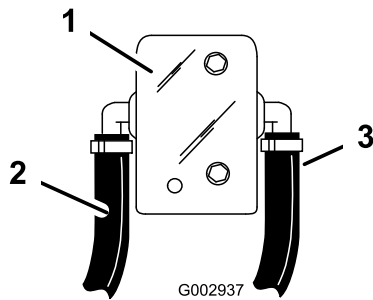

Figure 19
14. Connect the end of a short 1/2 inch hose to the open fitting on the S53 tee that you installed into the agitation hose and route it to the rear 1/2 inch barb on the small ball valve assembly (Figure 19).
17. Connect the end of a short 1/2 inch hose to the open fitting on the S53 tee that you installed into the by-pass hose and route it to the front 1/2 inch barb on the small ball valve assembly (Figure 19).